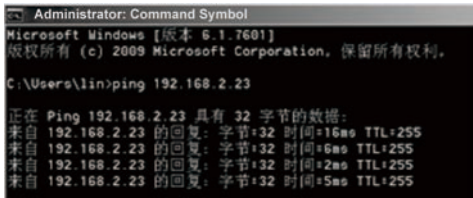

Figure 35
12. Set up complete open "CMD" window on PC, enter "ping 192.168 .1.100" command to correspond with handheld reader, as Figure 35 shows the data transmitted has set up complete(Figure 35).